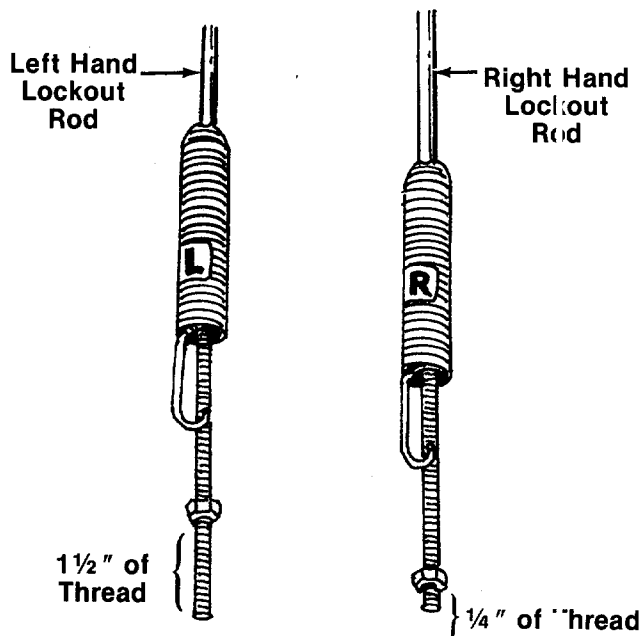

FIGURE 14.
19. The lockout rods are labeled "L" and "R" for the left and right hand sides of the unit. **Approximate** initial settings for the lockout rods are as follows: The left hand lockout rod for the drive clutch should have approximately 1½ inches of thread showing below the nut. The right hand lockout rod for the auger clutch should have approximately ¼ inch of thread showing below the nut. See figure 14. **FINAL ADJUSTMENT MUST BE MADE AS DESCRIBED IN STEPS 21 AND 22.** If the left hand lockout rod is not adjusted correctly, the shift lever cannot be shifted past neutral. If the right hand lockout rod is not adjusted correctly, the augers will not stop rotating.